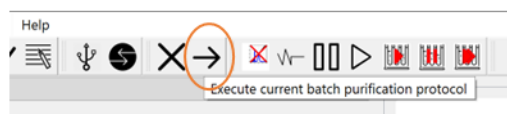

Figure 14. Options to start purification.
- 10 Start the purification using menu 'Run/Start run' or toolbar '→' (see Figure 14 **Error! Reference source not found.**). You will not be able to operate the pump manually while performing a protocol driven purification.